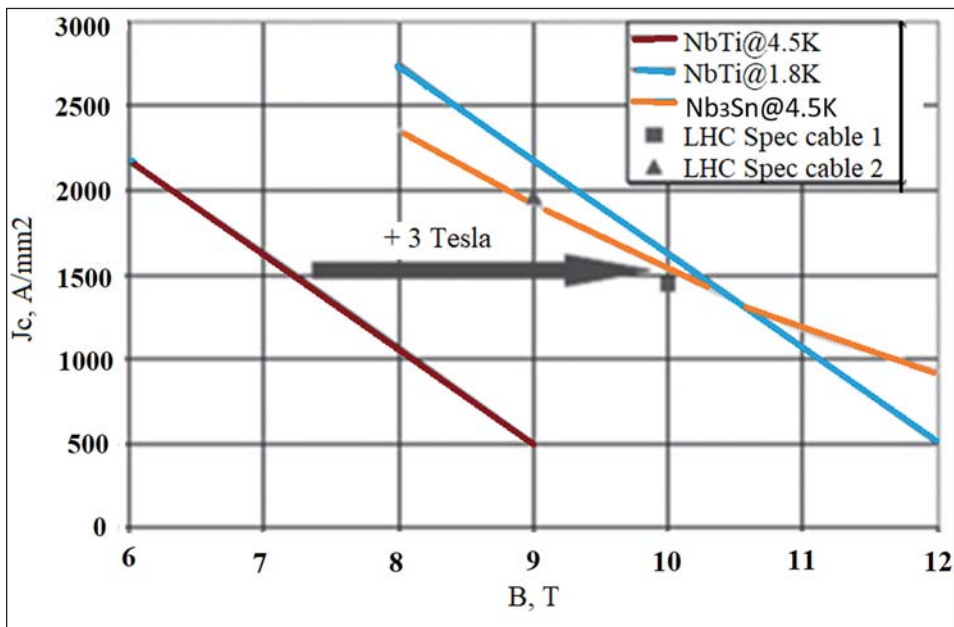

Figure 3. LHC cable specs and Critical B vs Jc of NbTi & Nb3Sn at 4.5 and 1.8 K.^[5] Credit: Ph. Lebrun
Furthermore, SC applications that involve high magnetic fields (H) and high accelerating fields (E_{acc}) have consistently required lower operating T. As illustrated in Figure 3, the widely adopted NbTi cable